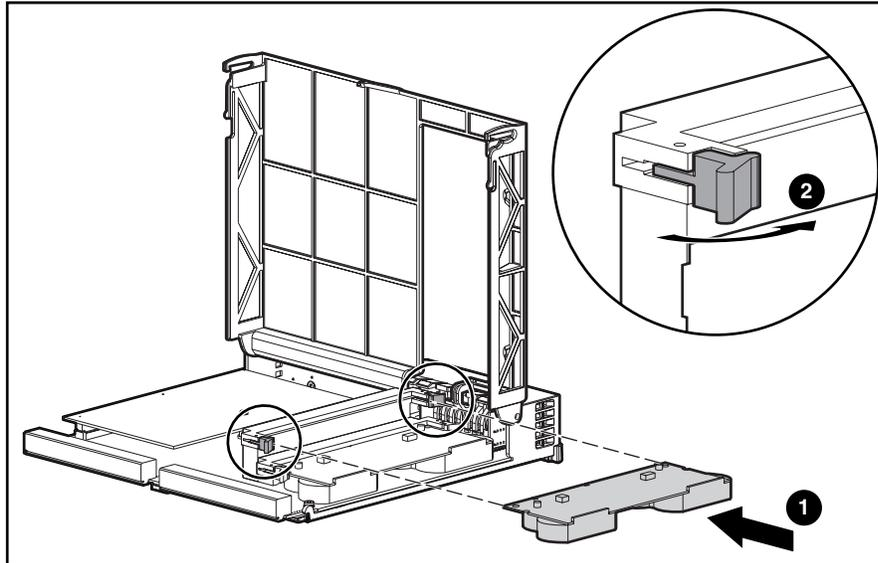

Figure 7: Installing the cache module
7. Install the new MSA1000 Controller cache by sliding the new MSA1000 Controller cache into the controller **1**. Be sure the side latches are fully engaged **2**. See Figure 7.